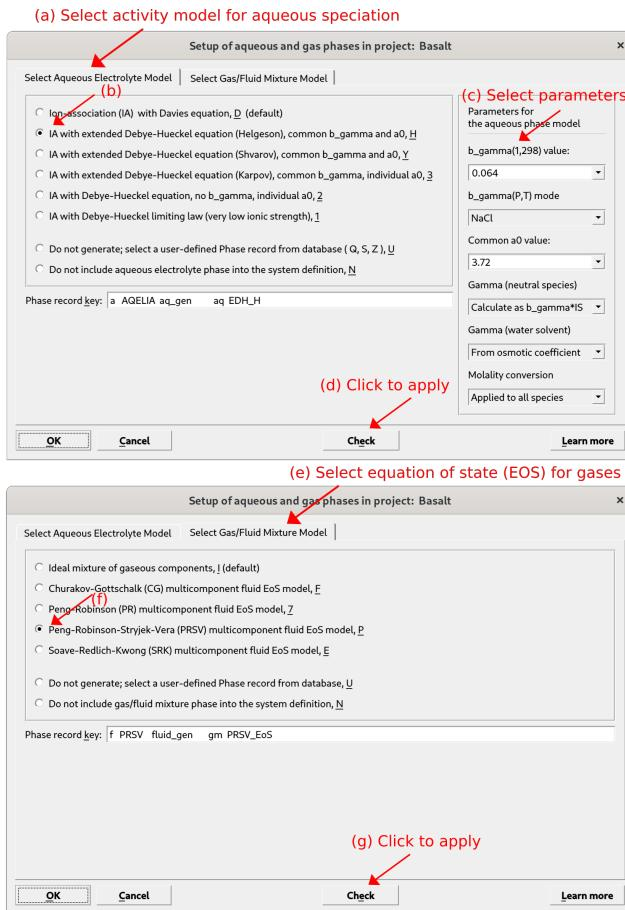

Figure 1.6: Select here the activity model for aqueous speciation (a-d) and the EOS model for gases (e-g).
- In the next window you will be able to choose the activity model for your aqueous speciation calculations (e.g. “Debye-Hückel”, Davies equation, ...), and the EOS for gases. For now, follow Figure 1.6 using the extended “Debye-Hückel” equation (Helgeson), check the parameters and click **Check** for the aqueous speciation model. *This model is ideal for modeling H₂O-NaCl aqueous solutions (with NaCl as background electrolyte) at hydrothermal conditions at relatively moderate salinities observed in many ore deposits.*
- Then you can switch to the gas EOS model tab and choose the Peng-Robinson-Stryjek-Vera (PRSV) model and click **Check** (Fig. 1.6). That’s it, now you are ready to model your first equilibrium model!